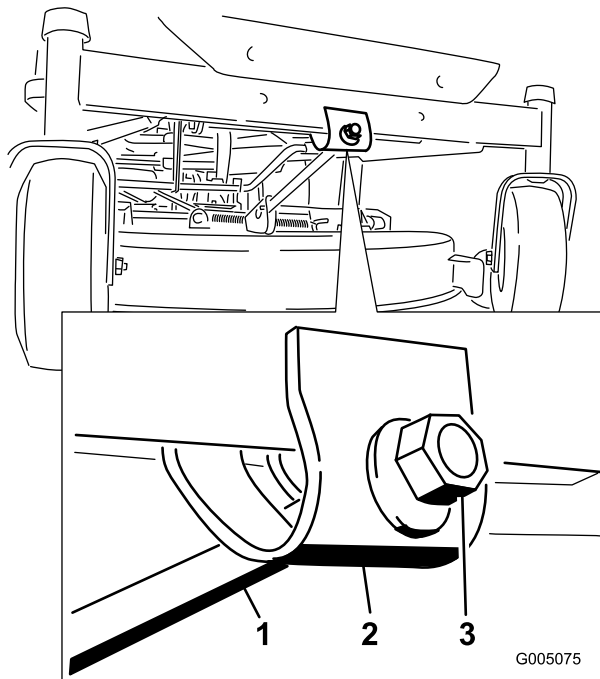

Figure 42
- To adjust the front-to-rear blade slope, rotate the adjustment nut in the front of the mower (Figure 42).